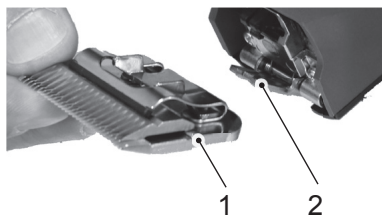

Fig. 8
6. Fit the favoured clipperhead to the blade hinge and fold it on to the switched-on clipper by light pressure. (fig. 8, 9, 10).